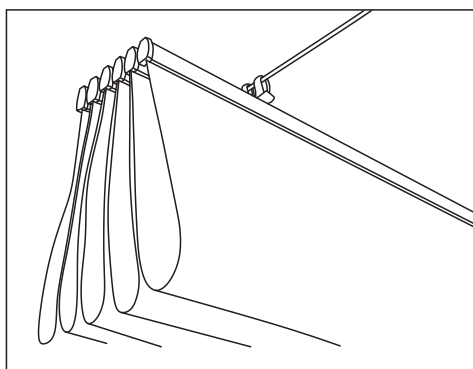

Fig. 25
- Install the end caps once all panels are in place (Fig. 25).